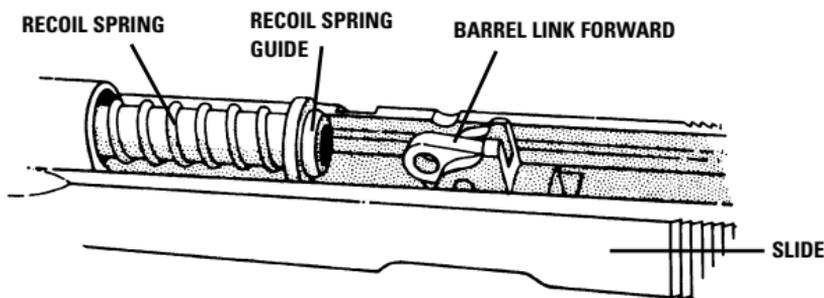

FIGURE 8 - BARREL LINK MUST BE FORWARD ONLY FOR BARREL TO BE REMOVED AND ASSEMBLED THROUGH THE SLIDE
8. Lift recoil springs and guide and pull them rearward out of slide. (See Figure 8)
1. With slide upside down and barrel link forward, assemble barrel into the slide, as in Figure 8.